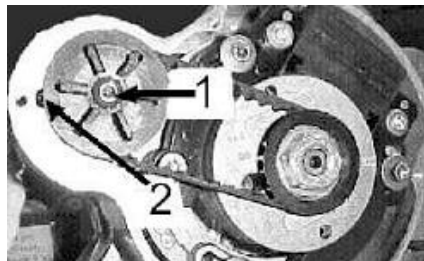

Figure 29
11. Remove bearing retainer screw using a 3mm hex key. (Figure 29 – item 2)